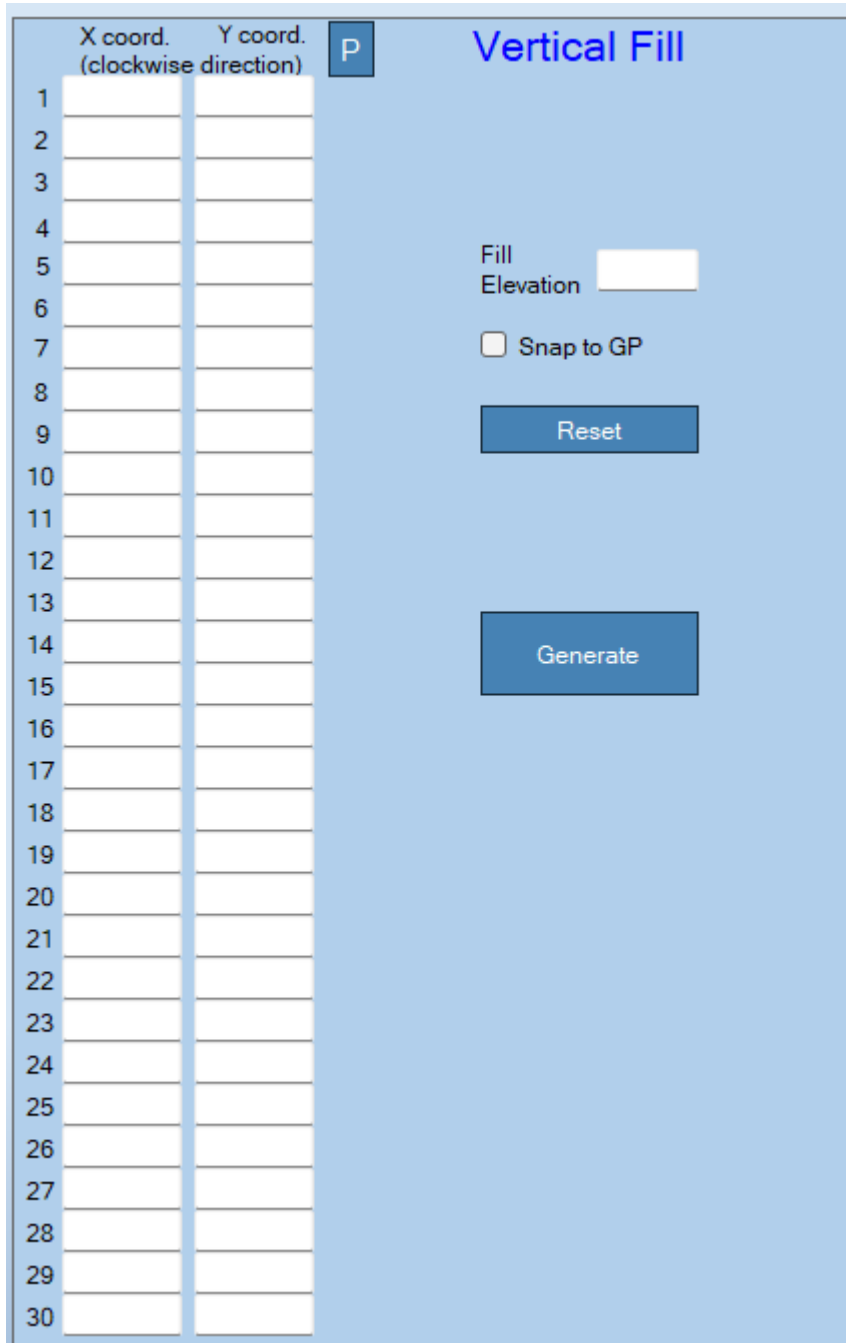

Figure 29: 3D Surfaces Menu – Vertical Fill (MSE Wall).
- **3D Surfaces Menu, Vertical Fill (MSE Wall):** This option (shown in Figure 29) defines a Vertical Fill (MSE Wall) landform over any given surface.